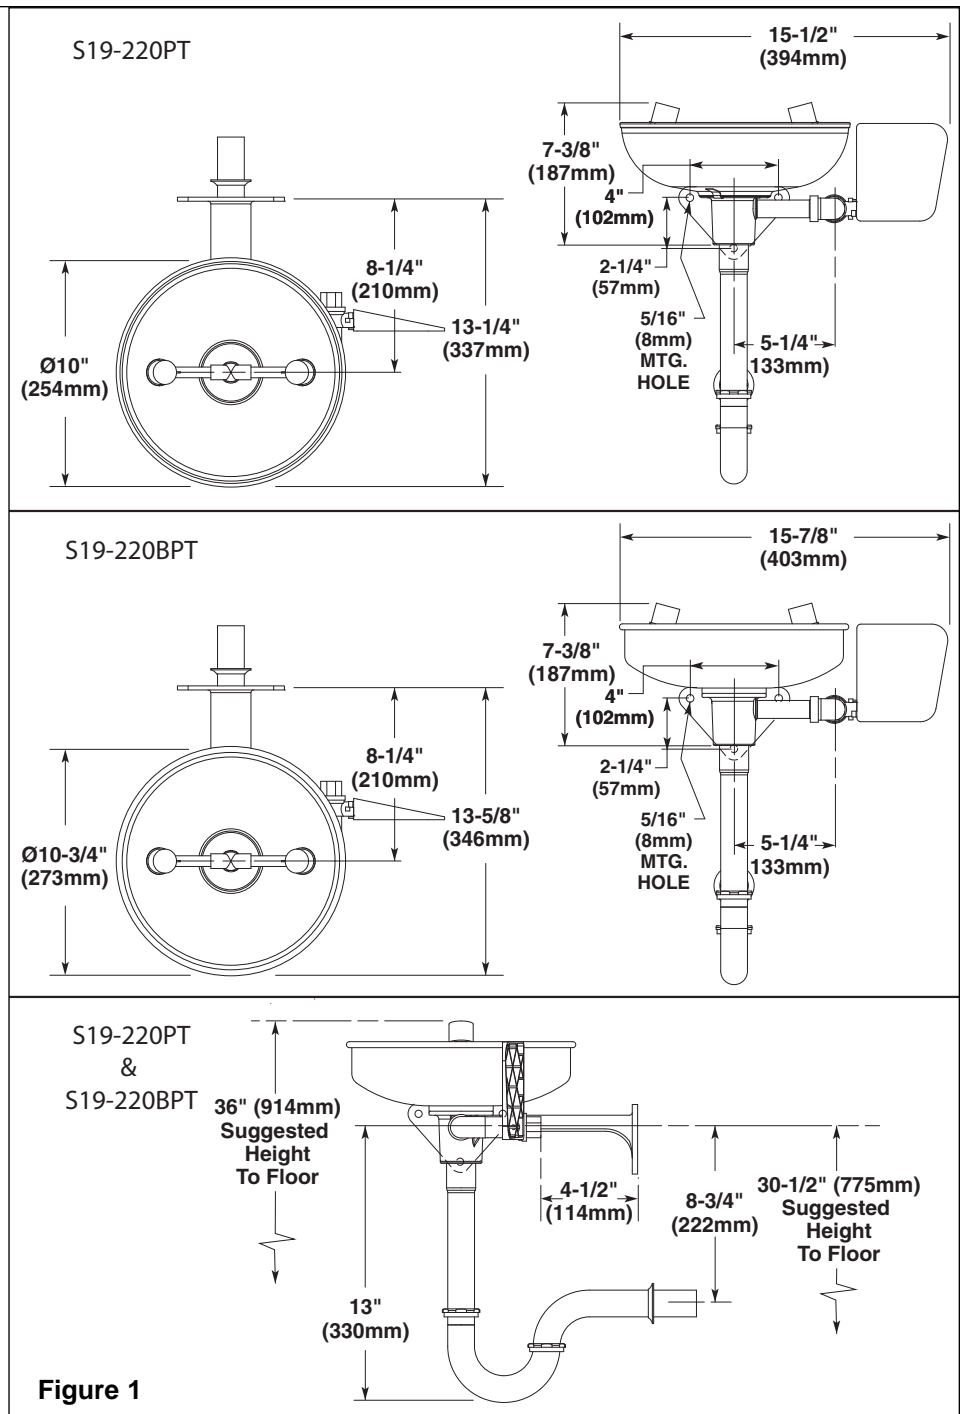

Figure 1
2. Using the inlet drain fitting as a template, mark the bolt hole locations on wall OR install three suitable fasteners (supplied by installer) for 3/8" bolts in the wall at the marked hole locations (see Figure 1).